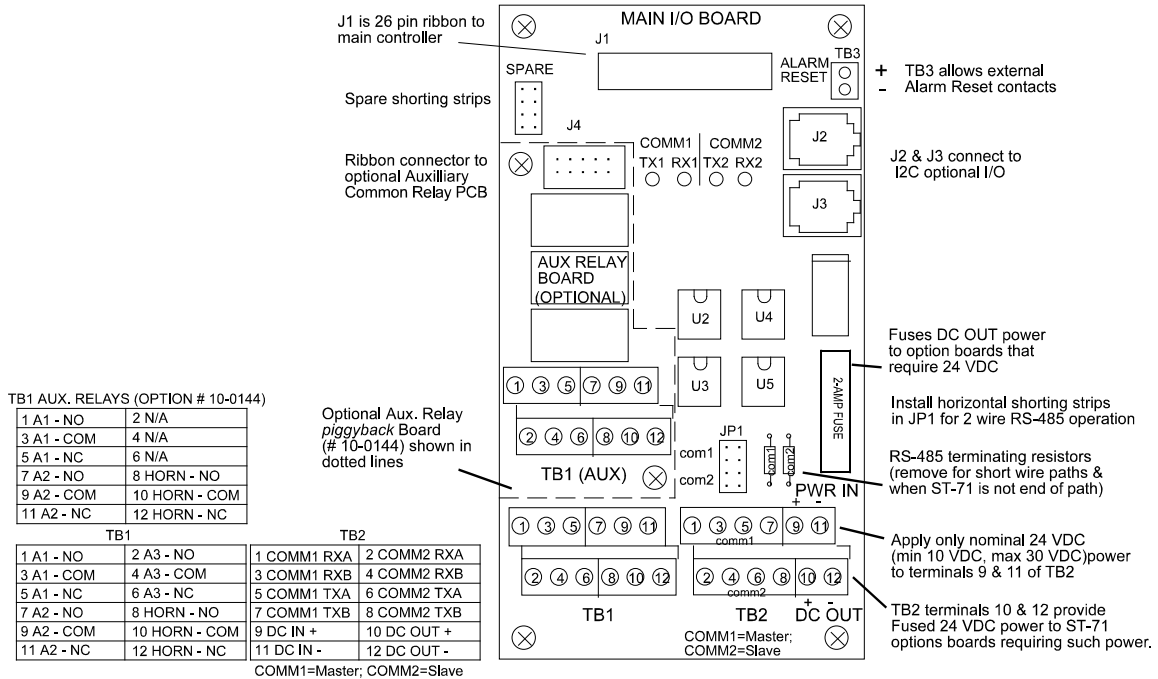

Figure 3.1
The most basic ST-71 Controller requires only the I/O PCB shown in Figure 3.1 for interfacing to field wiring. The ST-71 primary power supply is applied to terminals 9 & 11 of TB2. This may be from 10 – 30 VDC. **WARNING! HIGH VOLTAGES SUCH AS 115 VAC APPLIED TO THESE TERMINALS MAY CAUSE SEVERE DAMAGE!** DC output terminals 10 & 12 on TB2 provide up to 500mA of output power for powering remote devices such as lamps, transmitters etc.
An optional Auxiliary Relays *piggyback* PCB (part # 10-0144) may be added to the I/O PCB via ribbon cable J4. These add another form C contact set to the common A1, A2 and HORN alarms. Auxiliary Relay contacts are available at the TB1 (AUX) terminals shown in Figure 3.1.
1. Prior to connecting sensors, apply power to the system. Note this PCB requires 24VDC power be connected to its TB2 terminals 1 & 2 as shown in Figure 3.5. Suitable fused power is available from the Main I/O board's TB2 terminal 10 & 12 (see Figure 3.1). Measure the voltage between each channel's A and R terminals and set the *Voltage Adjust* potentiometers for the correct sensor excitation voltage. This may range from 1.5 volts to 7.5 volts depending upon sensor specifications. **Sensors may be damaged by accidental over voltage conditions. It is recommended the *Voltage Adjust* potentiometer screws be covered by a dollop of RTV or similar material after completion of this procedure to avoid accidental over voltage conditions.**
provided by the receiving device. Note: This PCB requires nominal 24VDC power be connected to TB2 terminals 1 & 2 as shown in Figure 3.7. Suitable power is available from the ST-71 Main I/O board's TB2 terminal 10 & 12 (see Figure 3.1).